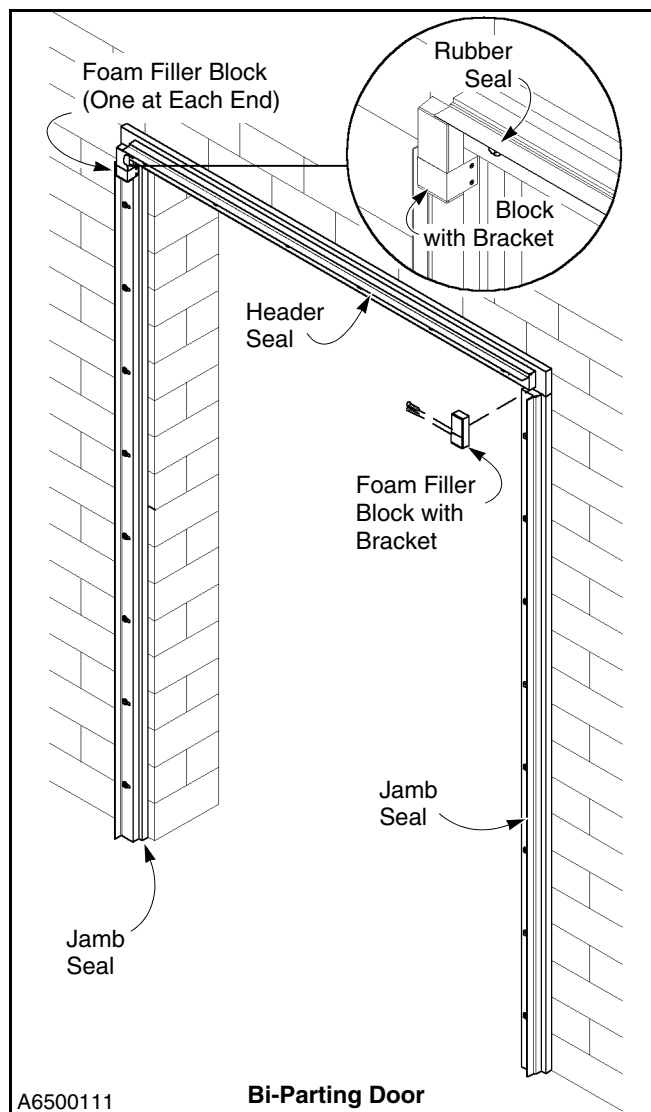
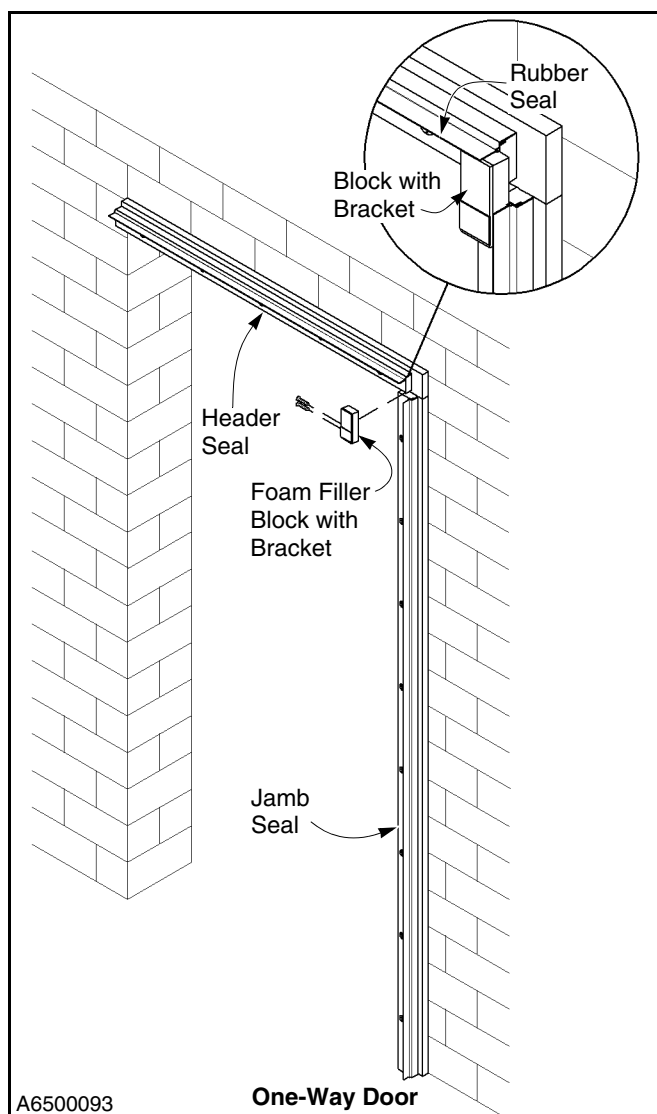

Figure 27
Figure 28
10. Inspect the foam filler blocks in the upper corners of the door seal. Each block is screwed to the edge of the jamb frame and should fill the gap between the header and jamb seals. Replace as necessary. (See Figure 27 and Figure 28.)